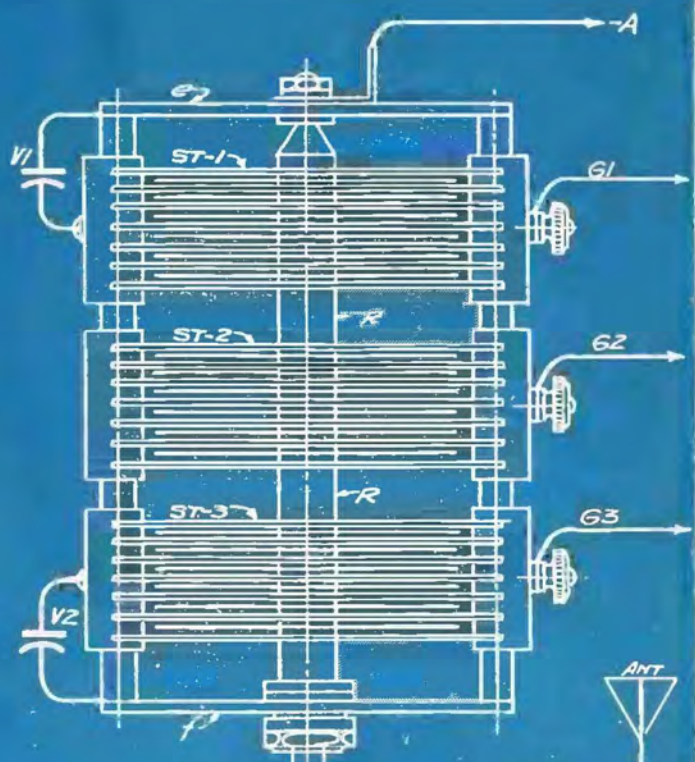

FIG. 5
Fig. 5 shows a "three-gang" condenser with three independent stators (ST-1, ST-2, ST-3) and a single rotor (R). With this assembly it is possible to tune all three stages of the circuit of Fig. 1 by a single tuning dial mounted on the end of the rotor shaft. A condenser of this sort takes a panel space equal to that of a single condenser, but it is so long that it generally extends the full depth of the cabinet. However, this is not a serious objection as the tube sockets can be rearranged without trouble.